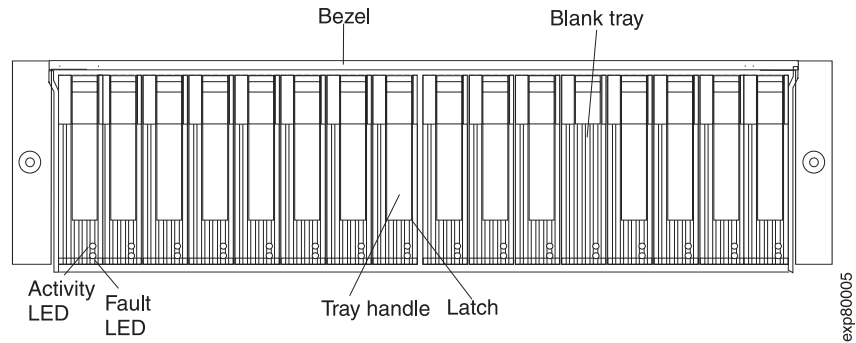

Figure 44. Hot-swap hard disk drive LEDs
2. Check for Fault LEDs shown in Figure 44. If any amber LEDs are lit, see “Solving problems” on page 101.